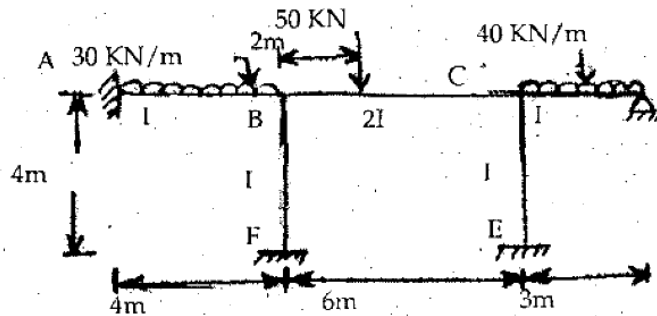

Fig. 1.1
3. Analyse the frame shown in Fig 1.1 by moment distribution method. Draw bending moment diagram. 20